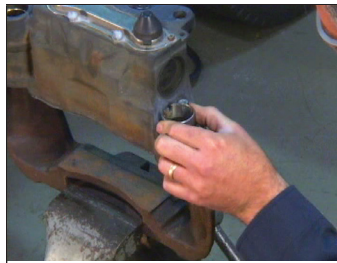

Figure 78 – Position the New Bushing
4.6.26 Place the new bushing (6) in position so that **when drawn into position, the tab will align with the slot in the casting.** With the tab aligned, place tool (T14) over the bushing and tap lightly. To position the bushing, see *Figure 78*.